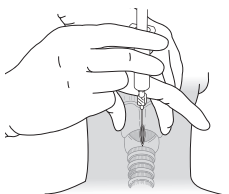

Fig. 3
3. Attach the supplied syringe to either the introducer needle or the catheter introducer needle and advance the needle through the incision into the airway at a 45 degree angle to the frontal plane in a caudad direction, in the midline. (**Fig. 3**) **NOTE:** Entrance into the airway can be confirmed by aspiration on the syringe, resulting in free air return.